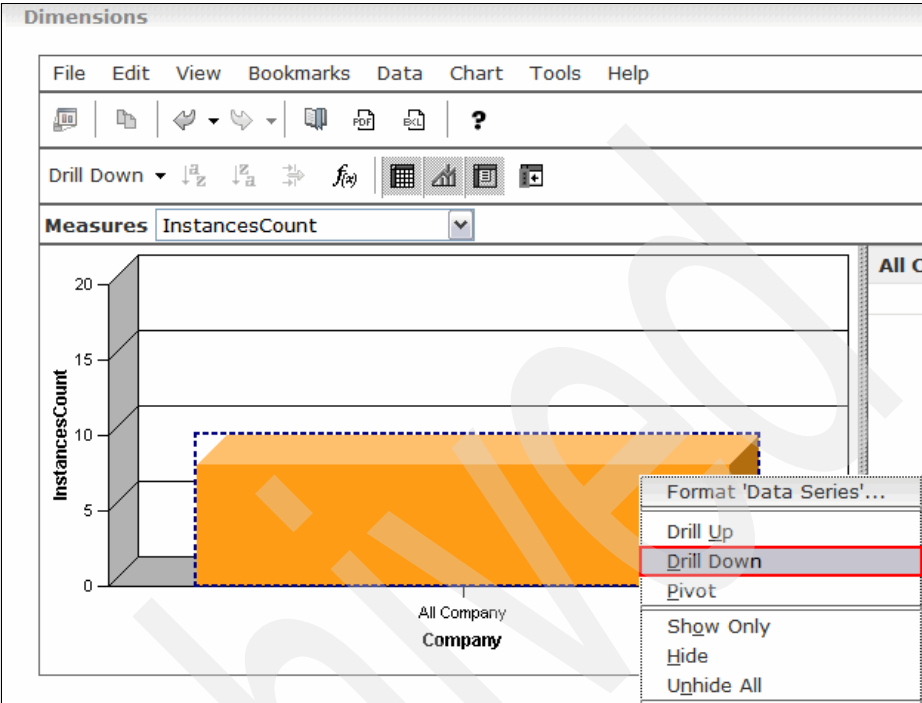

Figure 7-133 Selecting Drill Down
5. Right-click the **All Company** bar and select **Drill Down** (Figure 7-133).